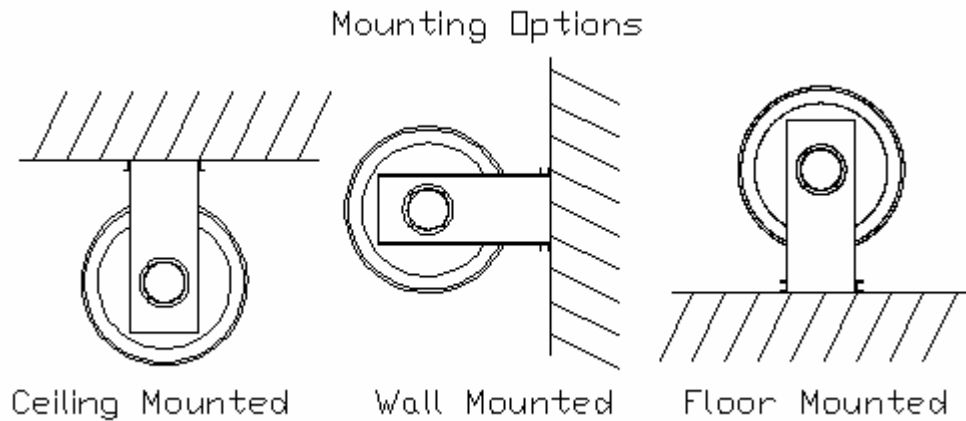

FIG 2
2. Several mounting options are possible (See FIG 2 for details).